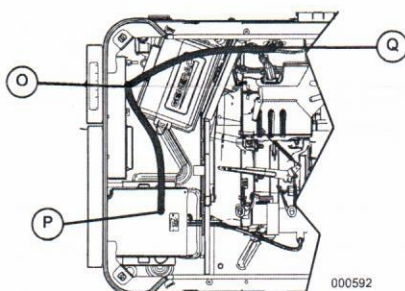

Figure 6.
13. Run and tie wrap harness extension to existing wiring harness, and connect. (See Figure 6).
14. Run harness extension through control box and plug into 220 VAC input sense terminal block, N1 (S) and N2 (R) on the Terminal Block (O). (See Figures 6 and 7).